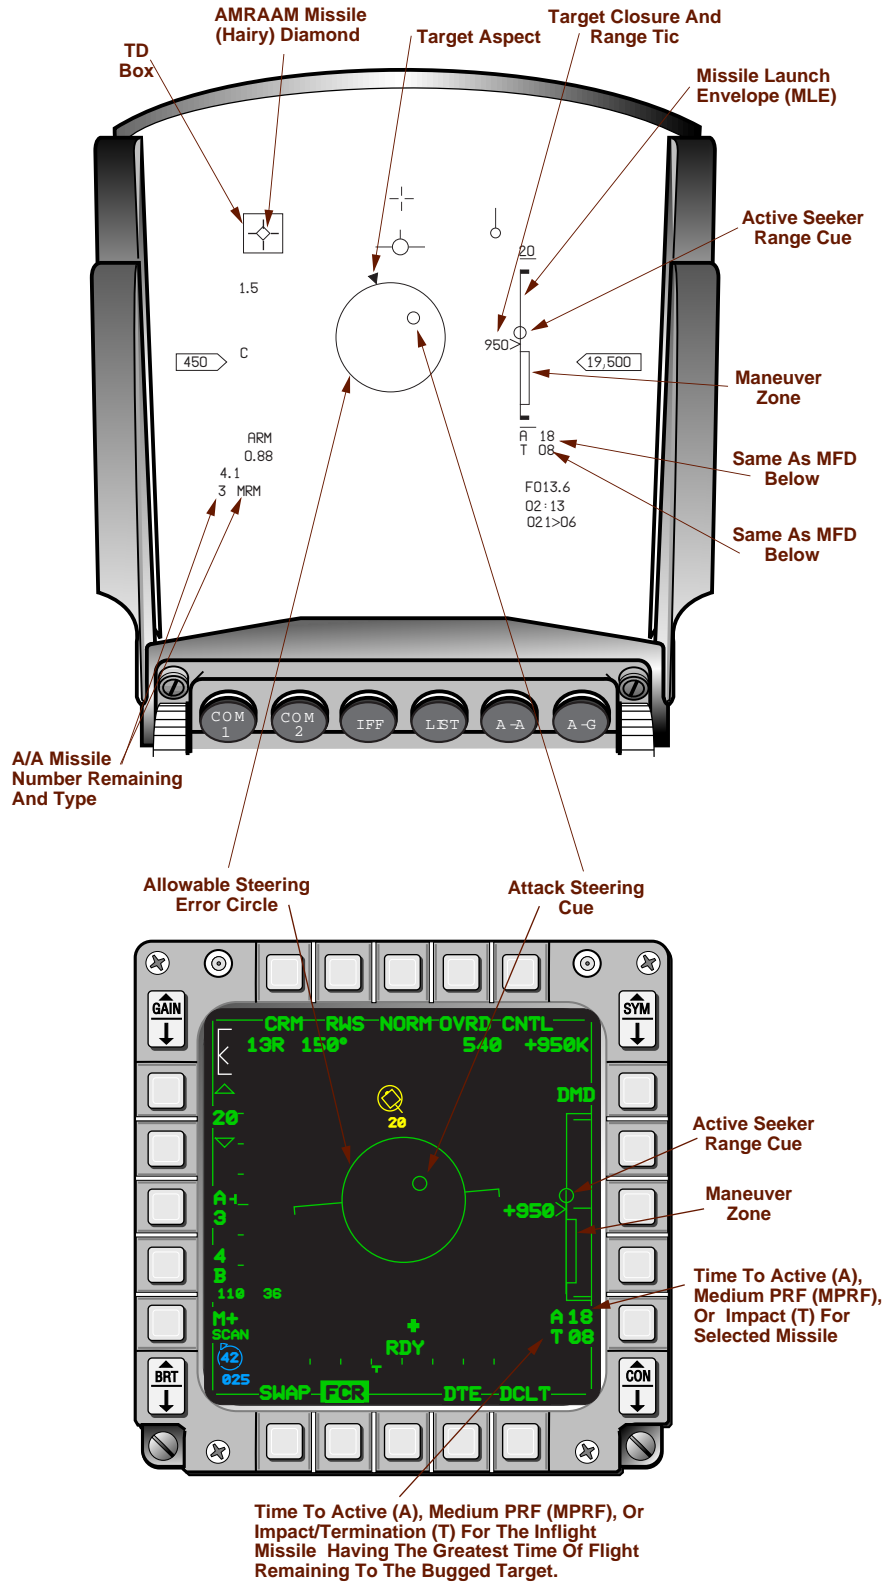

Figure 4-6 HUD and MFD AMRAAM Symbology
**HUD and MFD AMRAAM Symbology.** Comparisons of AMRAAM-related symbology on the HUD and MFD are shown in Figure 4-6.